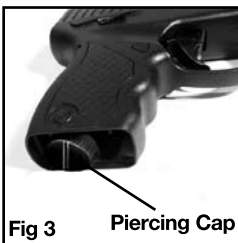

Fig 3 Piercing Cap
- Turn the piercing knob cap counter-clockwise and remove (fig. 3).